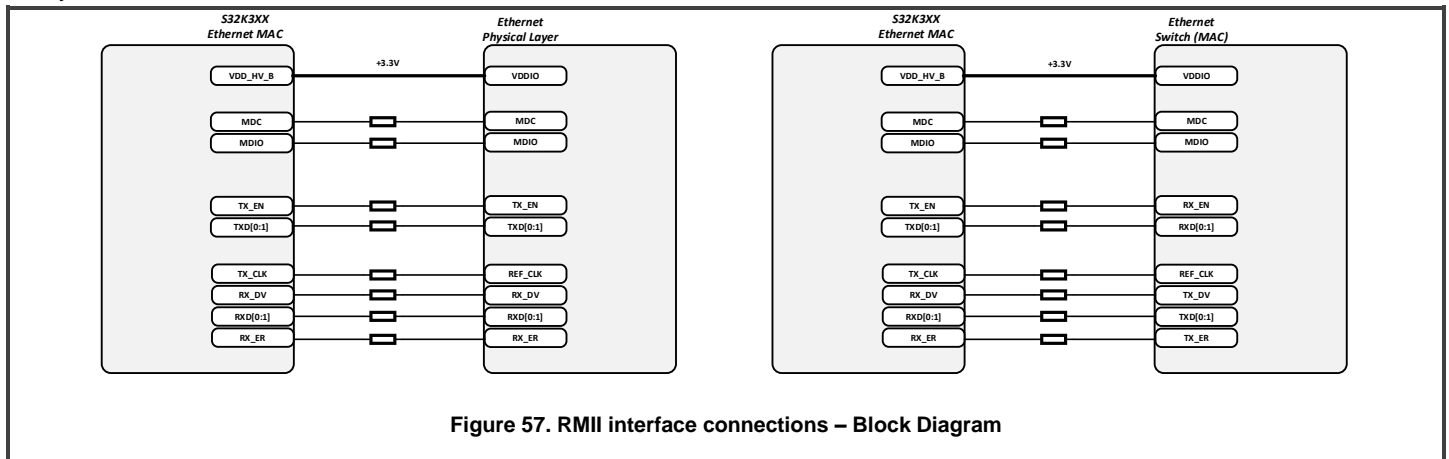

Figure 57. RMII interface connections – Block Diagram
**RMII signaling:** RMII data is exchanged via 2-bit data signals TXD[1:0] and RXD[1:0] as shown in *Figure 57*. Transmit and receive signals are synchronous with the shared reference clock, REF\_CLK.